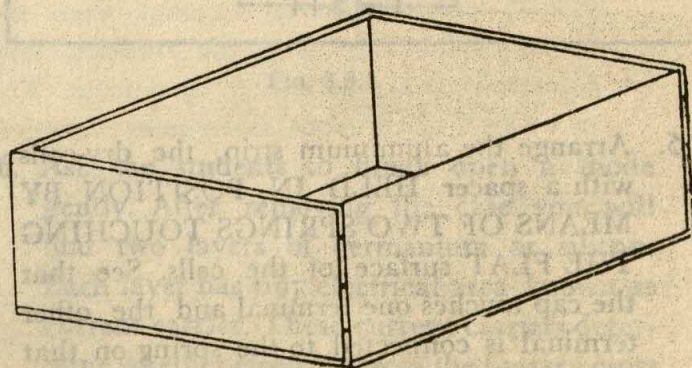

FIG. 3.4.3
3. Take a wooden, plastic or perspex box of suitable size to accommodate the two dry-cells with a spacer and sufficient margin for an aluminium strip, springs and terminals. The internal length should be at least $1/2'$ more than the length of the cells to be used. The internal width of the box is twice the diameter of the cell plus the thickness of the spacer, a wooden or perspex strip nearly ($1/4'$) thick. Fig. 3.4.3.